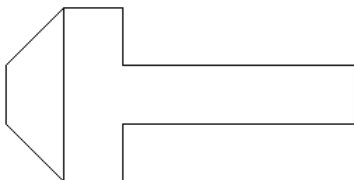

**Figure 4-14:** The completed drawing of a bolt.
16. Save your drawing. It should look like Figure 4-14.